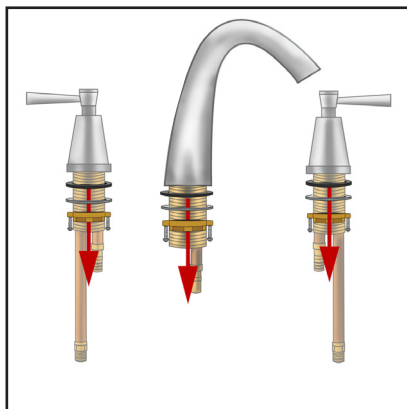

Figure 1
**1.** Remove rubber washer, metal washer, and locknut from the threaded shanks of the faucet body and two handles (**Figure 1**). If you look closely, you will find a black square rubber gasket sitting in a groove on the underside of the base of the faucet, just above the threaded shank. Do not remove this square rubber gasket.